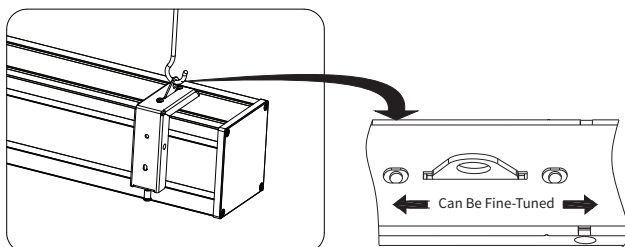

Figure 18
4. Hang the screen on the suspension hook, then check the hook's safety. If needed, take proper precautions to prevent the screen from accidentally sliding off the hook. (As shown in Figure 18)